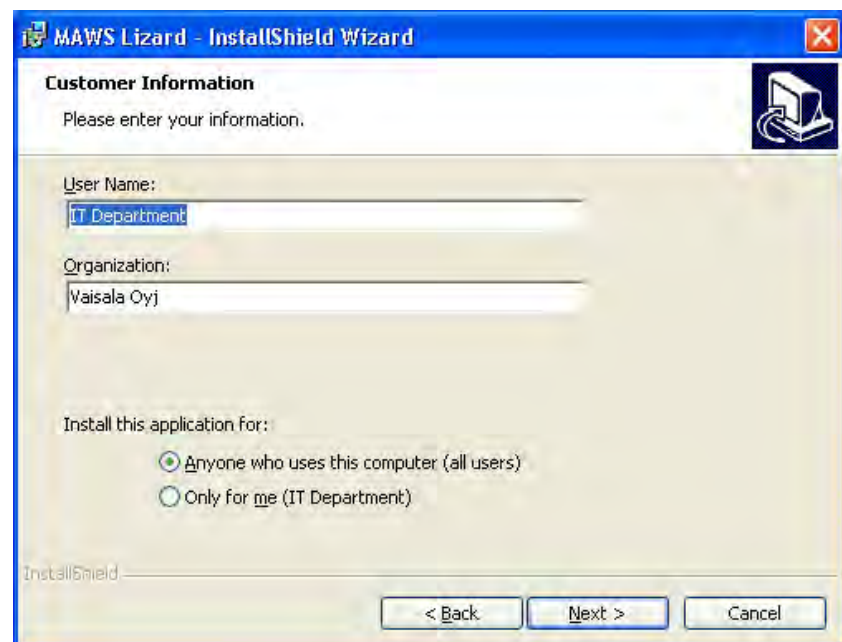

Figure 3 Customer Information Window
4. The **Customer Information** window is presented; see Figure 3 on page 27. In the **User Name**, **Organization**, and **Install this application for** fields, enter the information relevant to your organization. Click **Next** to proceed.